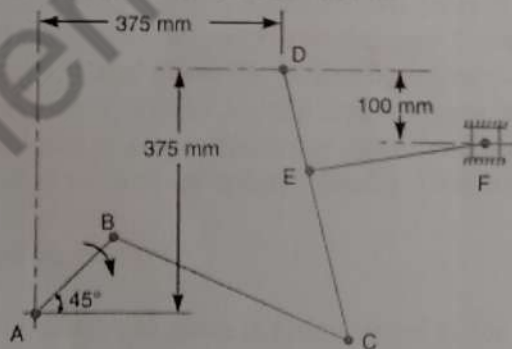

Figure 1
Q.2A. The mechanism, as shown in Fig.1, has the dimensions of various links as follows : AB = DE = 150 mm ; BC = CD = 450 mm ; EF = 375 mm. The crank AB makes an angle of 45° with the horizontal and rotates about A in the clockwise direction at a uniform speed of 120 r.p.m. The lever DC oscillates about the fixed point D, which is connected to AB by the coupler BC. The block F moves in the horizontal guides, being driven by the link EF. Determine velocity of the block F and angular velocity of DC